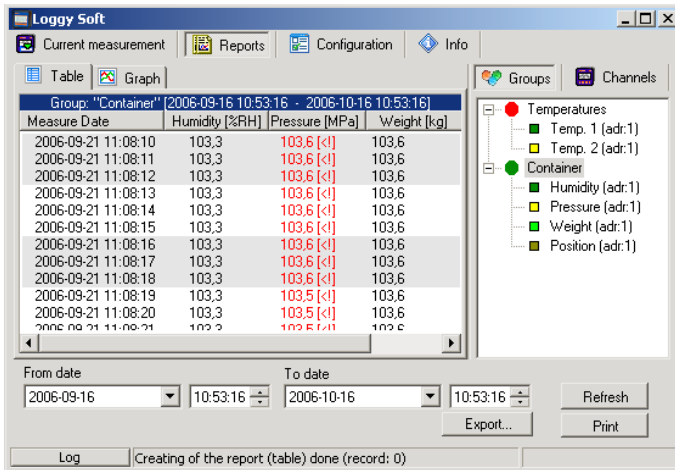

Fig. 3.3. **Reports** - menu
The **Table** tab (Fig. 3.3) is used for printing information concerning recorded measurements (e.g. temperature, humidity) in the form of a table for one of the groups or a particular measurement channel selected by the user (for more information on groups see 3.3.2 section, at page 104). This tab also enables the export of data to text format files. The exported file is formatted in a way allowing the transfer of data to a calculation sheet.
- click appropriate tab **Groups** or **Channels** (Fig. 3.3),